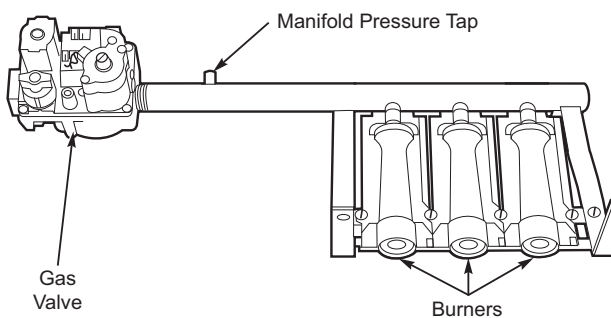

Fig. 53 — Burner Tray Details
10. Slide the burner tray out of the unit (see Fig. 53).
2. Remove manifold pressure tap plug from manifold and connect pressure gauge or manometer. (See Fig. 53.)